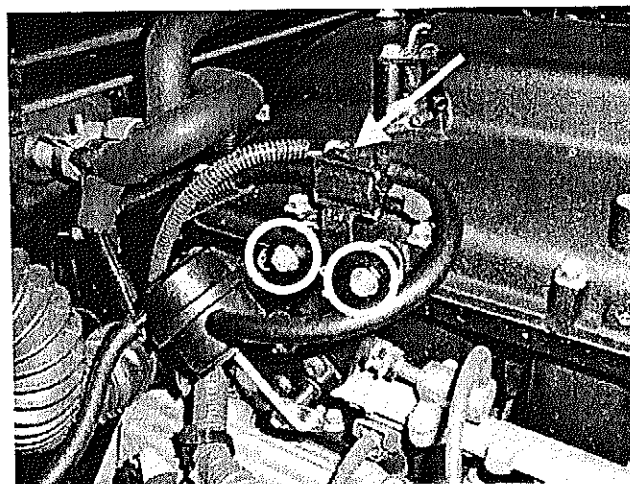

Figure 7
12. Disconnect the TRD bypass actuator assembly by removing the two attachment bolts. Also, unplug the supercharger diaphragm VSV (Figure 7).
14. Unplug the VSV and remove the EVAP VSV bracket and assembly and set it aside (Figure 7, Arrow D).